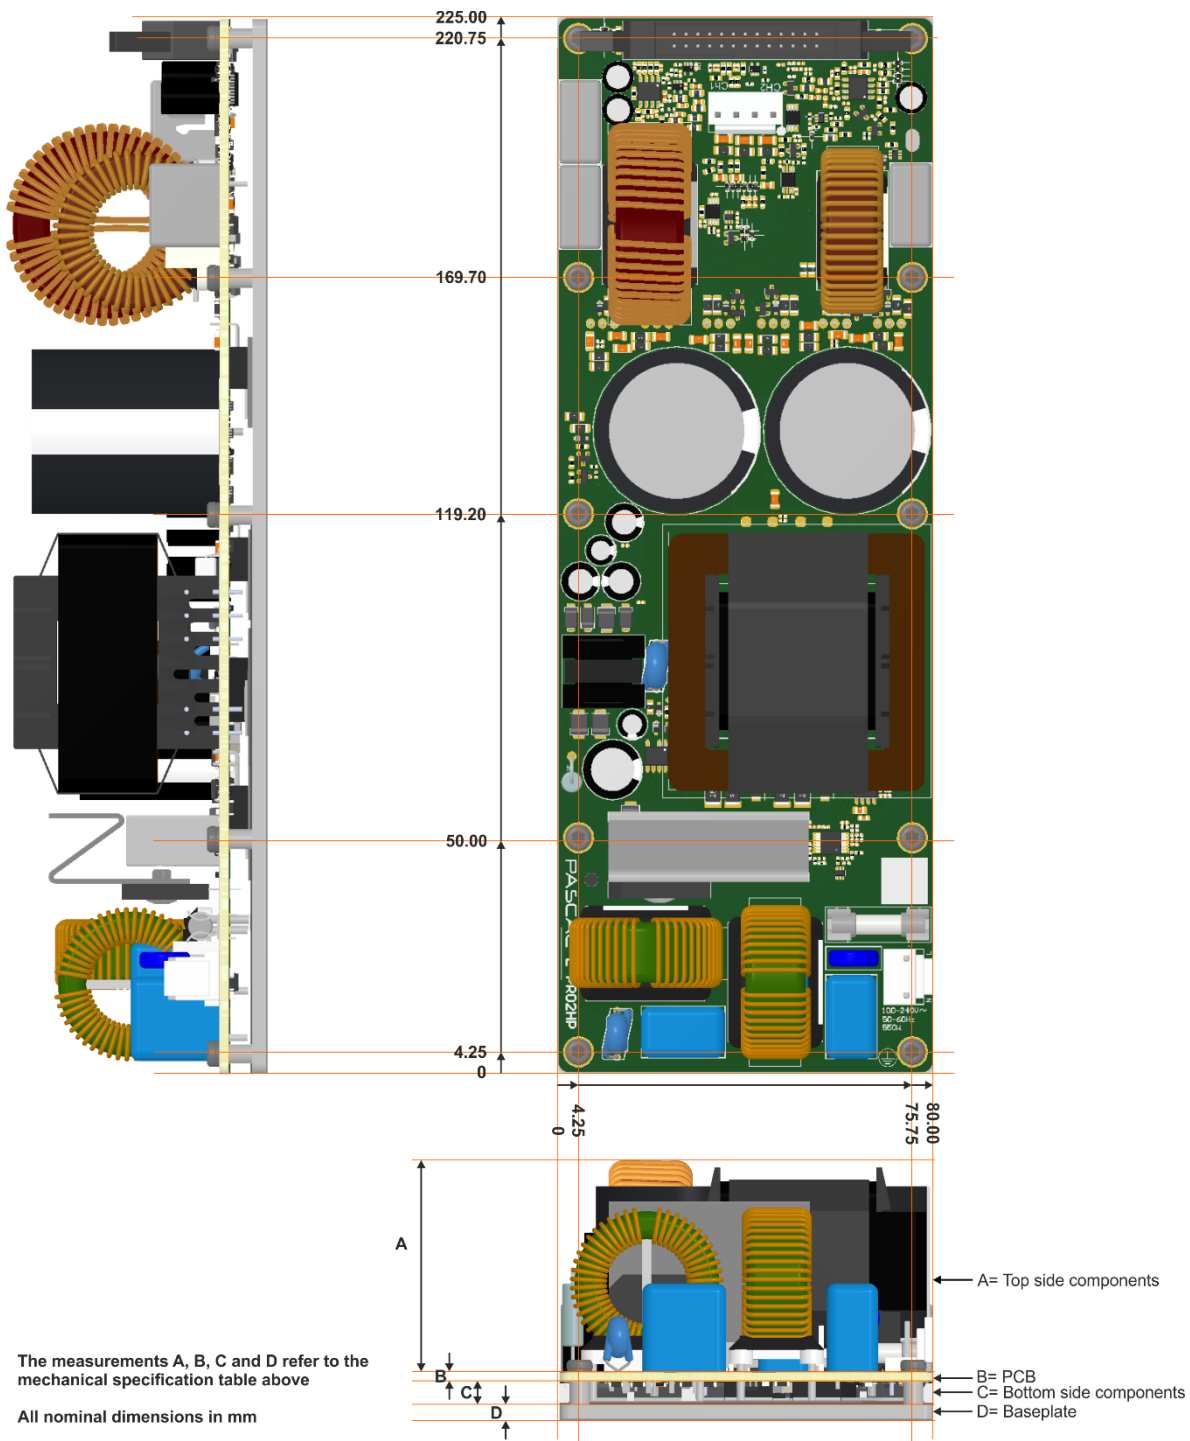

Figure 7-1: Mechanical specifications for L-PRO2HP module
The mechanical (A) - (D) measurements listed in the table below refers to *Figure 7-1*.